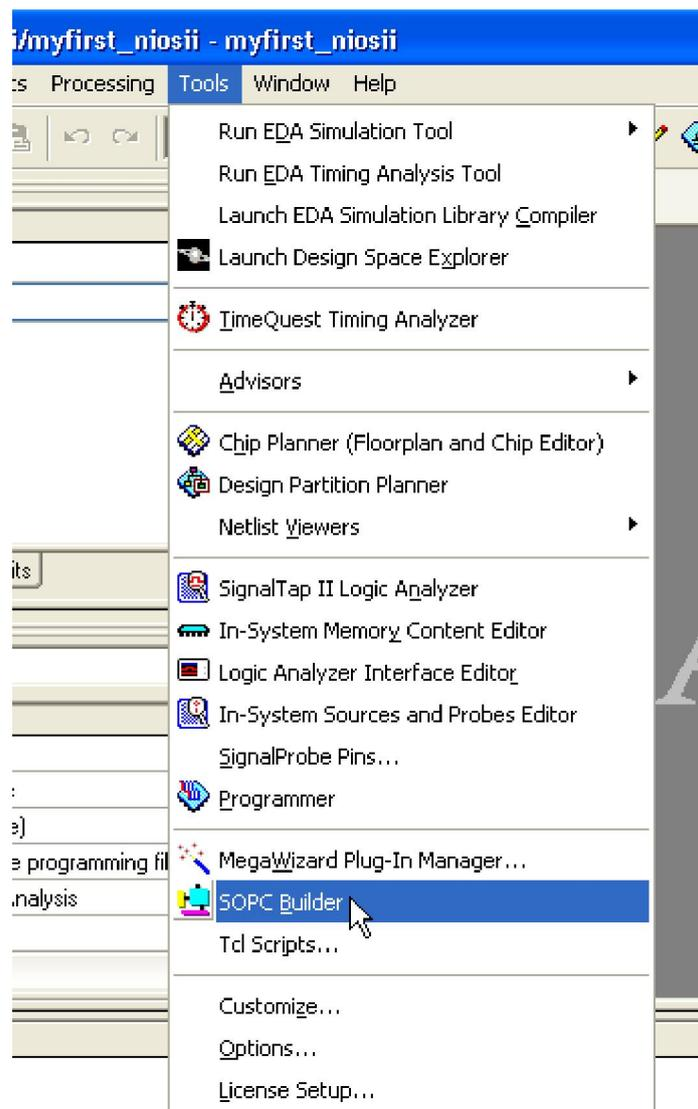
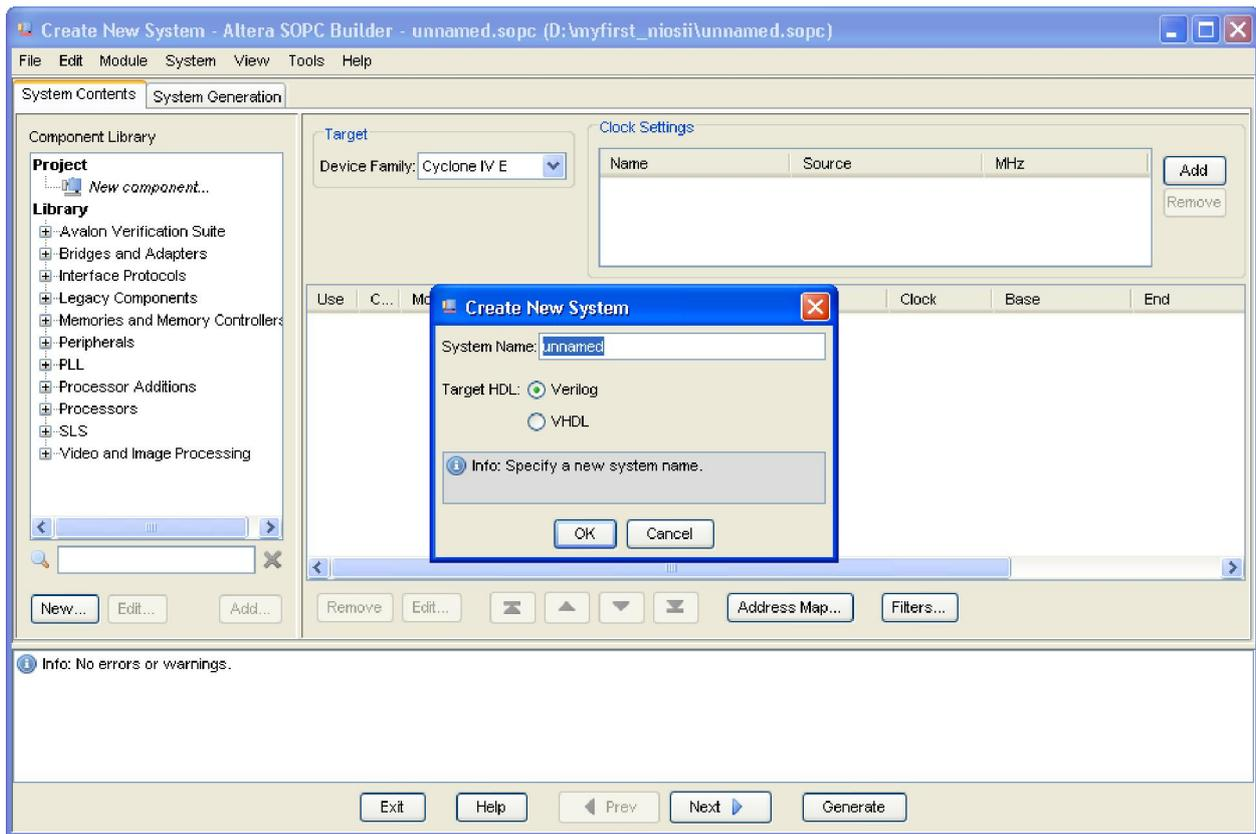

Figure 1-9 SOPC Builder Menu
Figure 1-10 Create New SOPC System [0]
5. Choose **Tools > SOPC Builder** to open new SOPC system wizard .See Figure 1-9 and Figure 1-10.